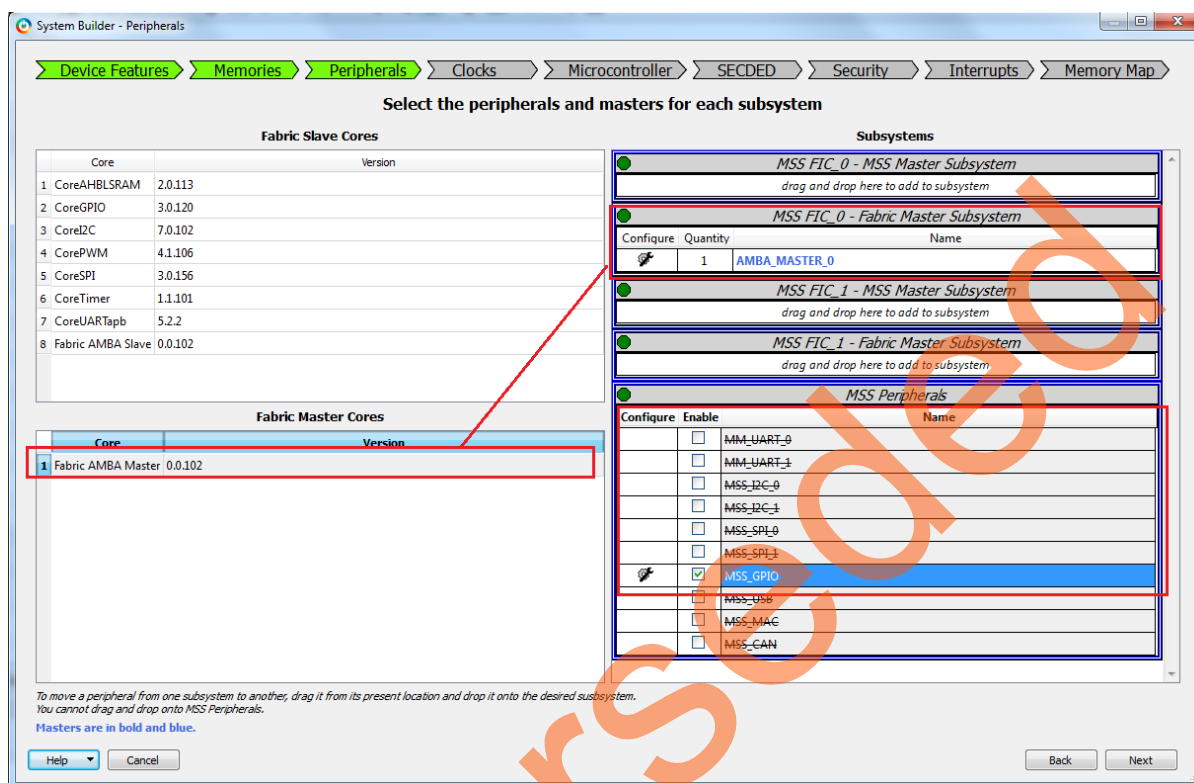

Figure 8 • System Builder Configurator – Peripherals Page
- Click **Next**. The **System Builder – Peripherals** page is displayed. Drag the **Fabric AMBA Master** to **MSS_FIC_0 – Fabric Master Subsystem** as shown in Figure 8. It enables the MSS_FIC_0 slave interface.